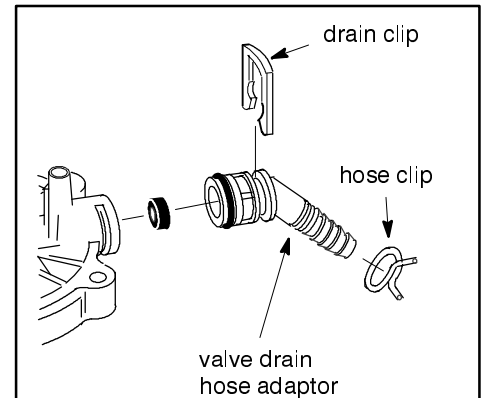

Figure 3
8. Using a needle nose pliers, lift up on drain clip and remove valve drain hose adapter from valve. Set aside. **Figure 3.**
20. Reconnect valve drain adaptor to valve and secure with drain clip. **Figure 3.**